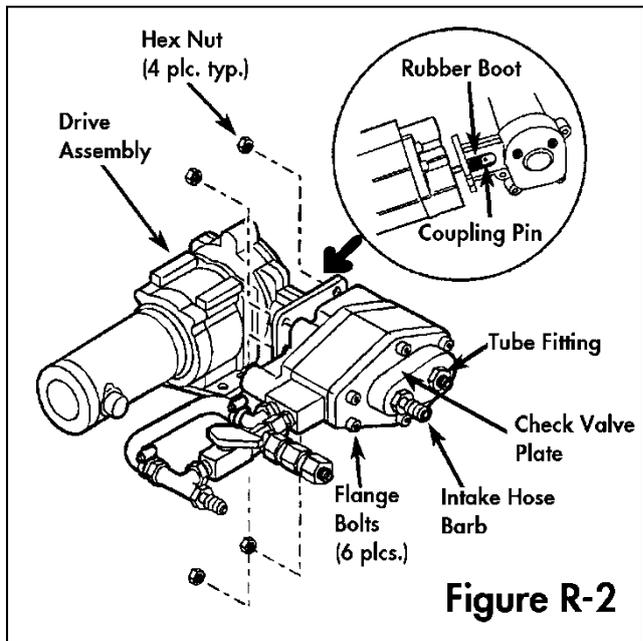

Figure R-2
drive assembly to expose as much of the piston shaft as possible. Slide the black rubber boot on the piston shaft toward the pump to expose the shaft coupling pin. Use a small screwdriver or allen wrench to push the coupling pin out of the shaft. (Note: the coupling pin is a loose fit and may fall out on its own. Do not lose it.) Separate the pump from the drive assembly and set the drive assembly aside in a safe place. Slide the black rubber boot off the piston shaft. Move the pump to a clean work surface for further disassembly. See **Figure R-2**.
4. Remove the plastic intake hose barb from the check valve plate. While the pump is still bolted together, use the 7/8" open-end wrench to just loosen the tube fitting in the check valve plate. Then use the 1/4" allen wrench to remove the six socket head flange bolts that hold the check valve plate to the pump body. Separate the check valve plate from the pump body and remove the large o-ring (8012830) seal between them. See **Figure R-2**.
4. Screw the plastic intake hose barb into the check valve plate (See **Figure R-2**). Then, working from the other side of the check valve plate, install a new poppet valve, valve spring and valve retainer, using the same procedure as was used for the reject check valve assembly. Lubricate a new o-ring (8012830) with silicone grease and install it into its groove in the pump side of the check valve plate.